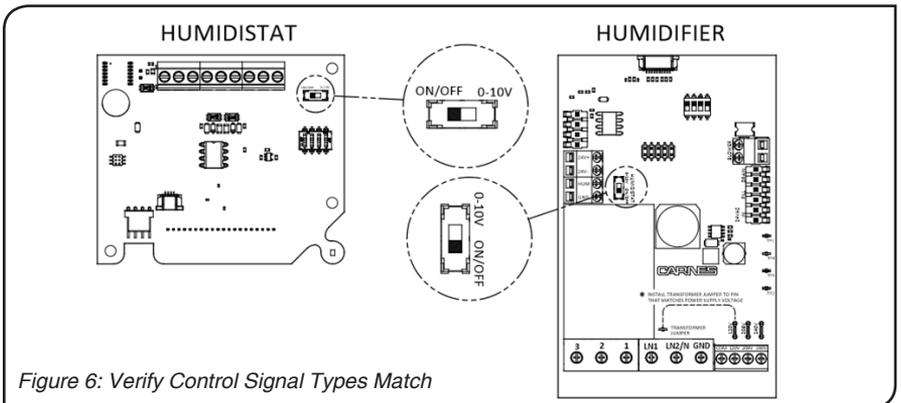

Figure 6: Verify Control Signal Types Match
- Verify that the humidistat output matches the humidifier input type (Figure 6).